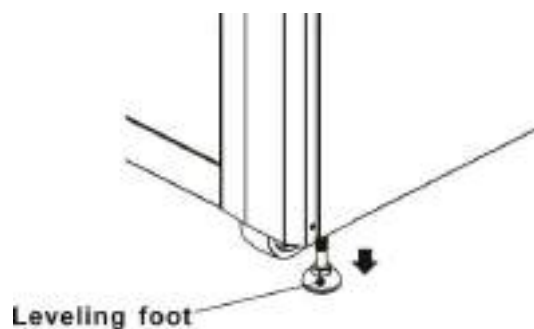

Figure 2-5
5. To fix the cabinet in position, simply rotate leveling feet clockwise. Refer to Figure 2-5.